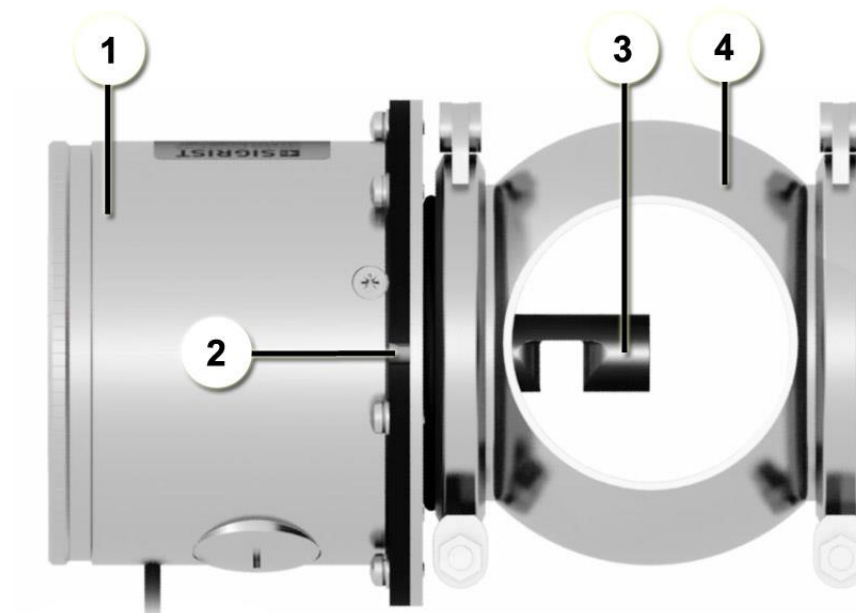

Figure 3: Position of the sensor in horizontal mounting
- In the vertical mounting position, the centering pin (2, Figure 3) must point upward (X, Figure 4).
- In the horizontal mounting position, the centering pin (2, Figure 3) must point to the right (Y, Figure 4).